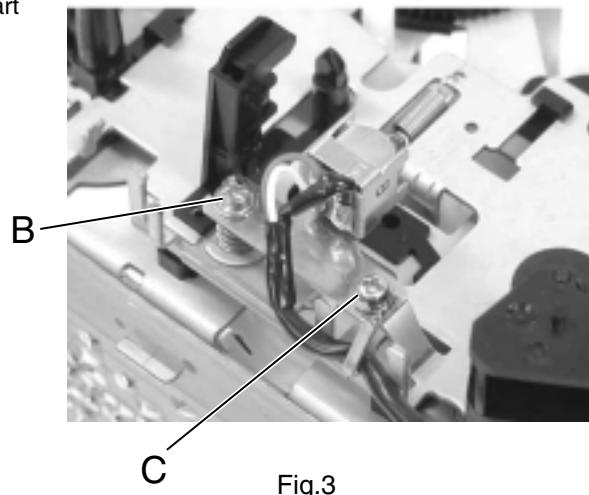

Fig.3
■ Removing the P/B head assembly (See Fig.3)